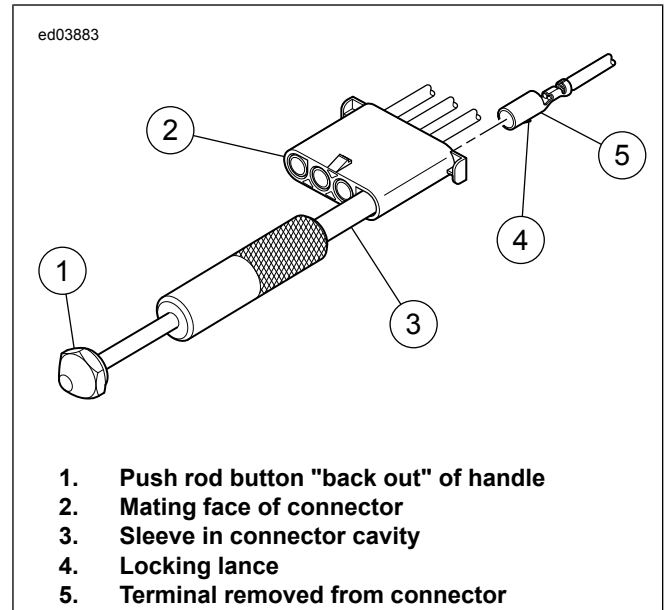

Figure B-45. Terminal Removal
1. See Figure B-45. Push in and firmly hold the wire of the terminal to be removed. This will disengage the locking lance from the groove in the connector.